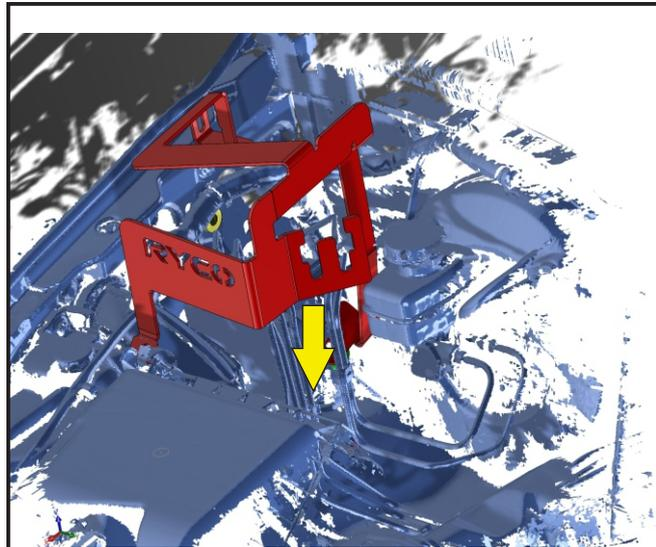

FIG. 9A FB9810CX BRACKET INSTALLATION
5. When fitting the FB9810CX Catchcan bracket as shown in FIG. 9A to 9C, you will be required to manouvre the bracket around engine components.